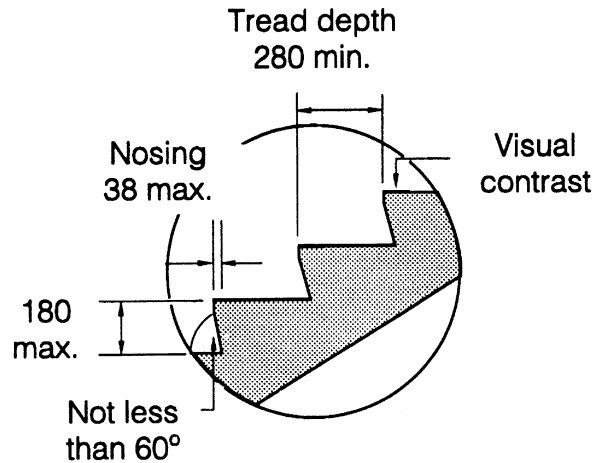

Figure 3
- See CSA Figure 1 & 2 on page 2 and Figure 3 on page 3.